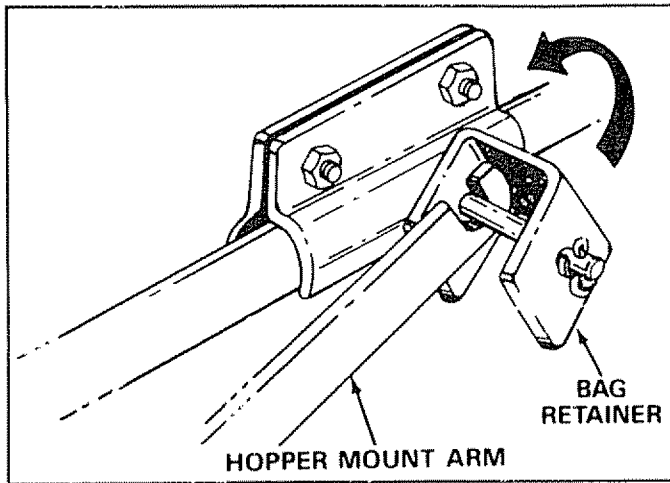

FIGURE 28.
19. To remove the hopper bag frame from the sweeper, simply flip the bag retainers upward and remove the bag. See figure 28.